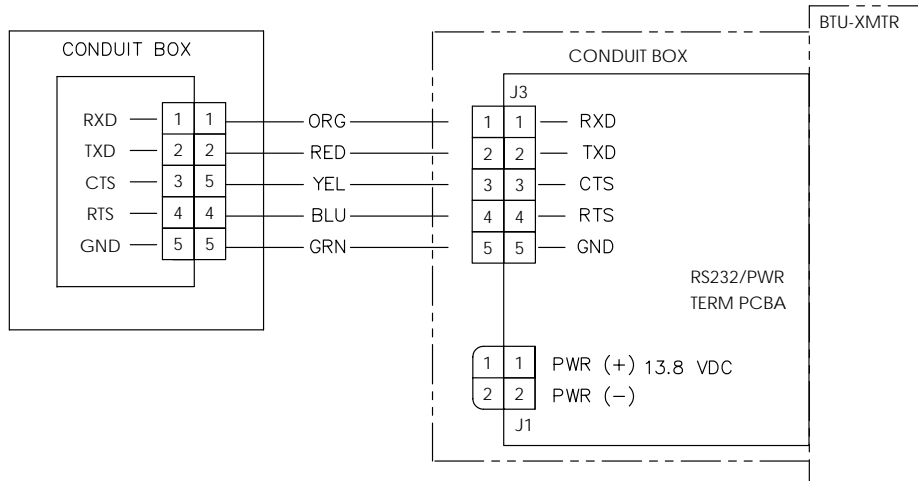
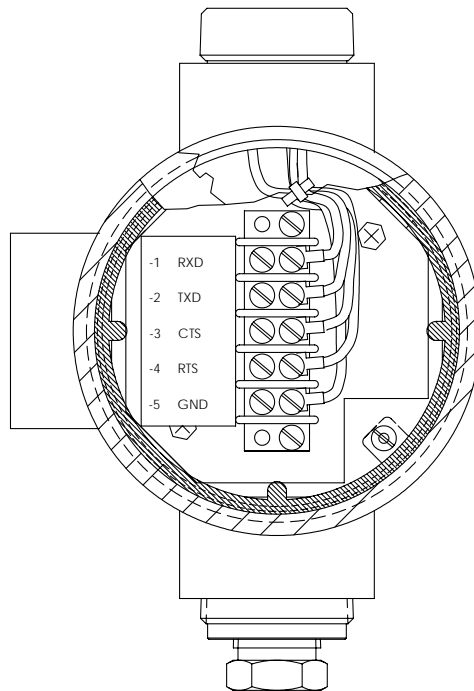

Figure 17 RS-232 Option Wiring Diagram
Figure 18 Wired Outlet Box
- 10) Using the Wiring Instructions in Figure 17, remove terminal screws and install each wire on the correct terminal (see Figure 18).
- 1) Using the wiring instructions shown in Figure 18, make all external connections.